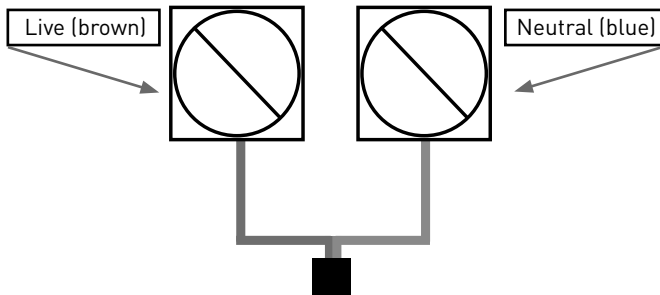

Fig 3
- Ensuring correct polarity is observed, carefully wire as shown in Fig 3